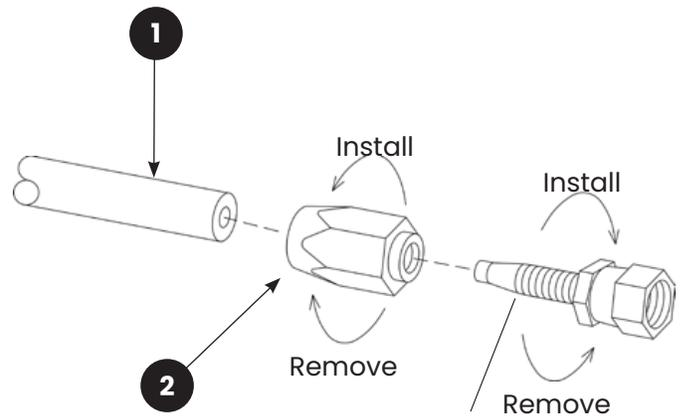

FIGURE 7: (1) Control Hose; (2) Sleeve
4.7 Cutting Control Hose and Reusing Control Hose Fittings — Figure 7